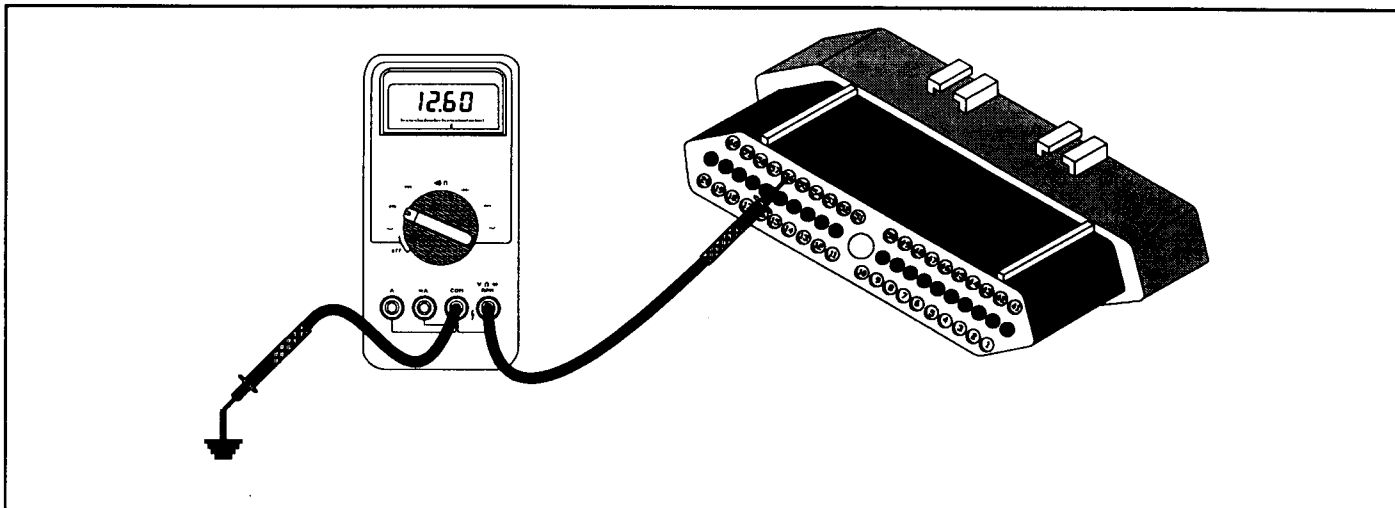

Figure 13
- With the connector unplugged, check cavity # 56 for battery voltage (See Figure 13). While checking for voltage, wiggle the main wiring from the battery to the controller. If battery voltage is lost during this wiggle test, a bad fusible link or a break in the wire has occurred (See Figure 8 for fusible wire location). In Figures 9 and 10 a Fusible Wire Chart can be found showing vehicle application and fusible wire color. In some applications a typical fuse is used and is noted. If a broken wire is in the harness, a continuity check is required at different points across the wire to locate the break.